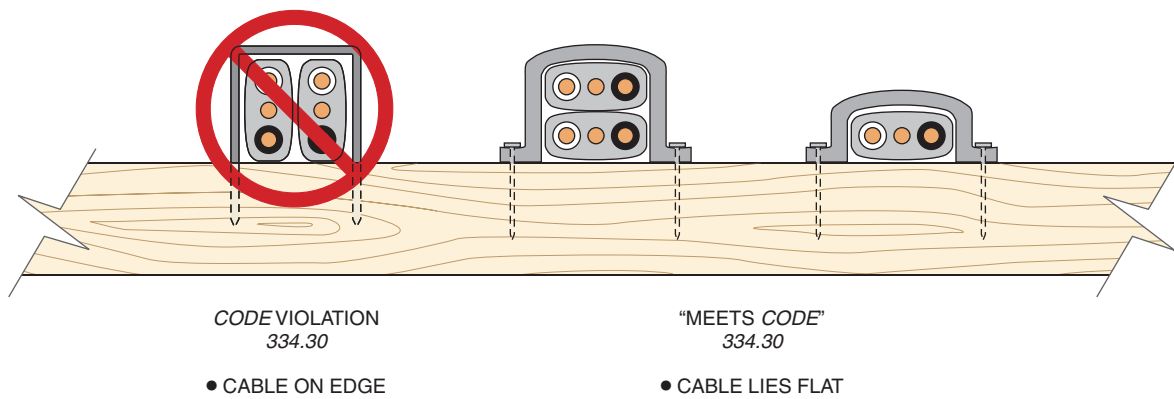
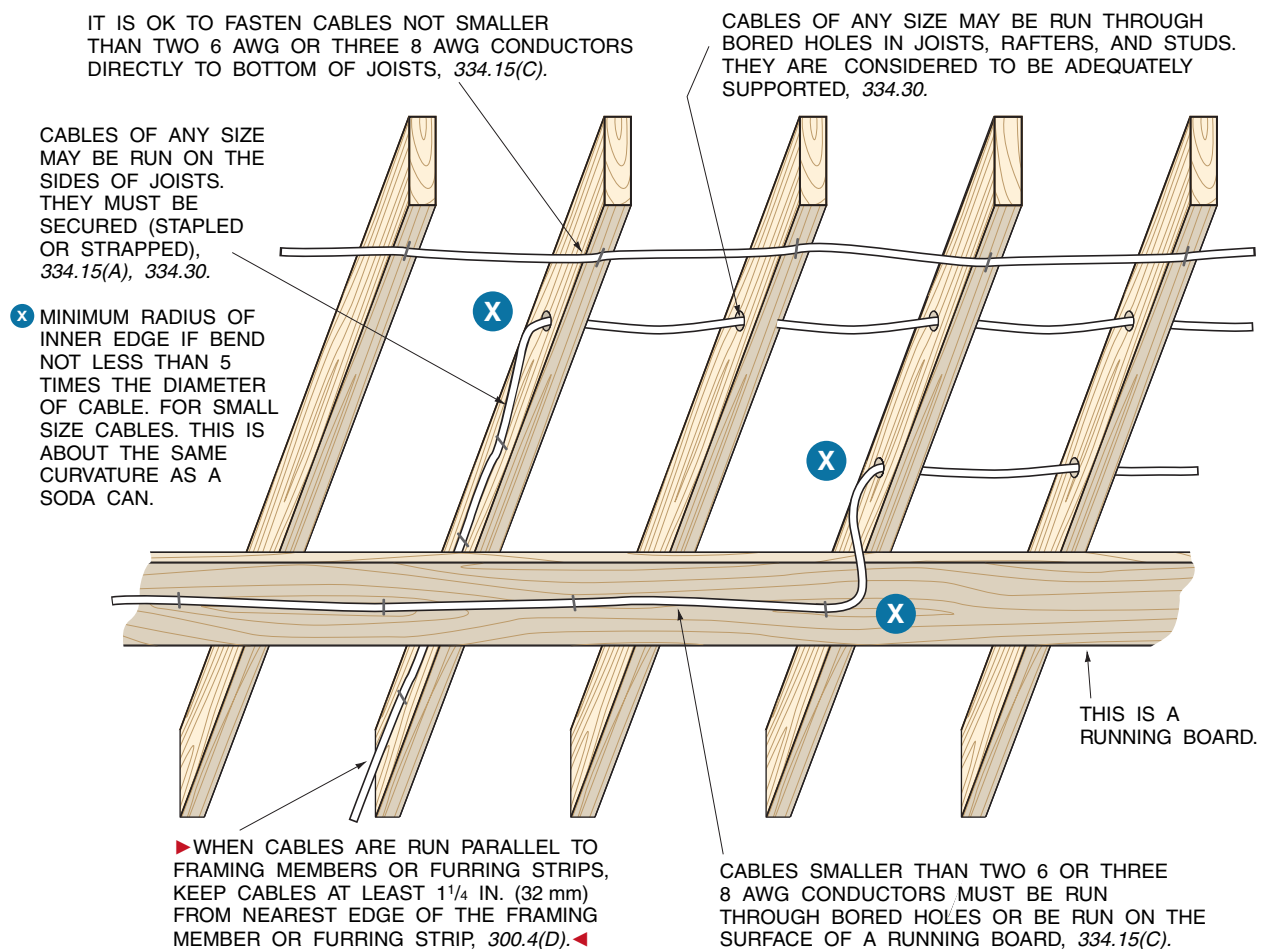

Figure 4-15 It is a *Code* violation to staple flat nonmetallic-sheathed cables on edge, 334.30.
Figure 4-16 The requirements for running nonmetallic-sheathed cable in unfinished basements and crawl spaces.
lation of nonmetallic-sheathed cable must conform to the requirements of *Article 334*. Refer to Figure 4-11, Figure 4-12, Figure 4-13, Figure 4-14, Figure 4-15, and Figure 4-16.
- Do not staple flat nonmetallic-sheathed cables on edge, Figure 4-15.
Figure 4-16 shows the installation of nonmetallic-sheathed cable in unfinished basements, 334.15(C).